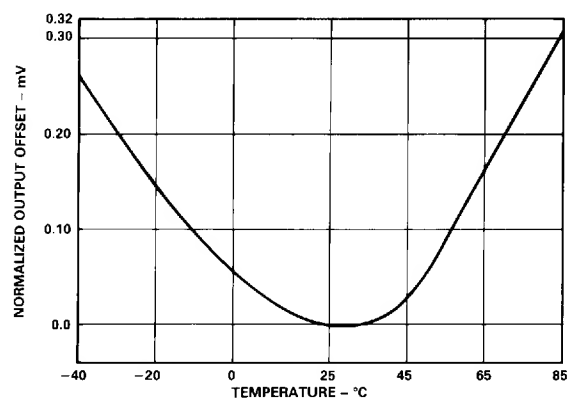

Figure 10. Normalized Output Offset Voltage (mV) vs. Temperature (°C) with an AD208 Gain of 1 V/V, with  $V_S = 15$  V pk-pk, 25 kHz Square Wave
**Output Offset Voltage.** The normalized output offset voltage drift from the initial offset measured at +25°C is presented in Figure 10 over the rated -40°C to +85°C temperature range.